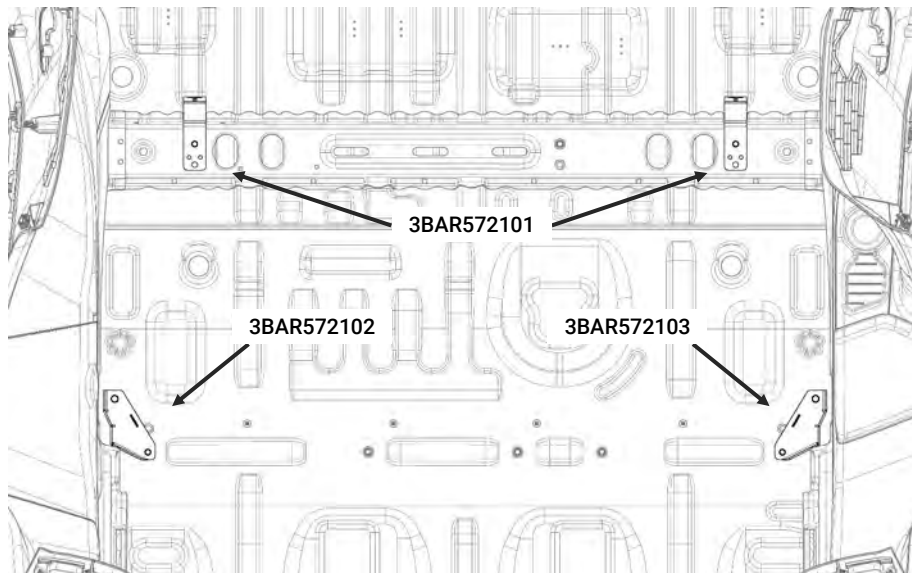

Figure 1
- Locate the points where the front panel will mount. Figure 1 shows the brackets in their locations on the sheet metal floor pan - the floor covering is not shown.